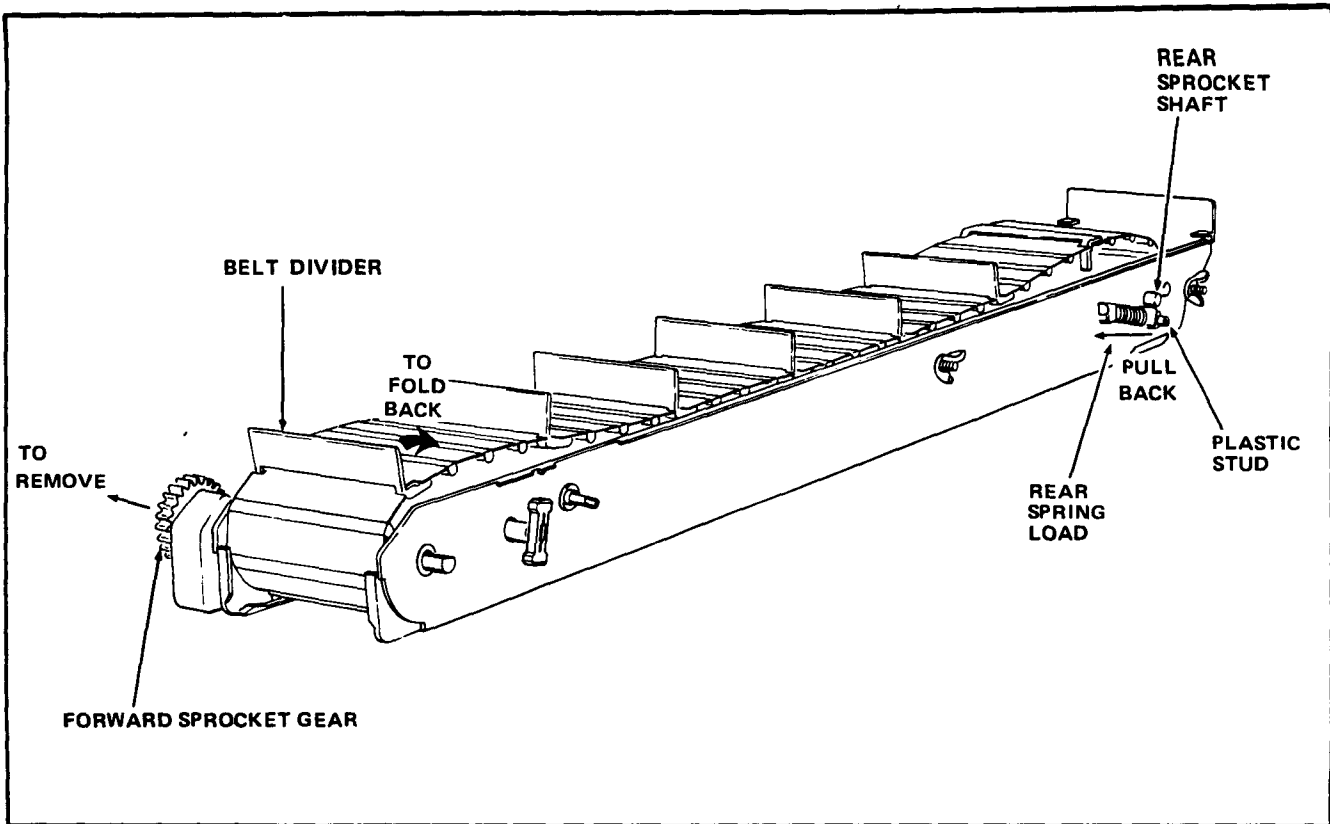

FIGURE 1
1. Remove the Forward Sprocket Gear from the Module Assembly to be converted. See Figure 1.
2. Compress both of the Rear Spring Loads on the Module, as shown in Figure 1, and rest them against the Plastic Studs on either side of the Module.
3. Fold back one of the Belt Dividers near the front of the Module. See Figure 1.